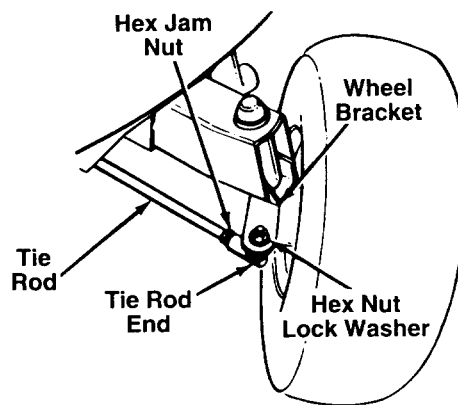

FIGURE 15
1. Remove the hex nut and lock washer, and drop the tie rod end from the wheel bracket. See figure 15.